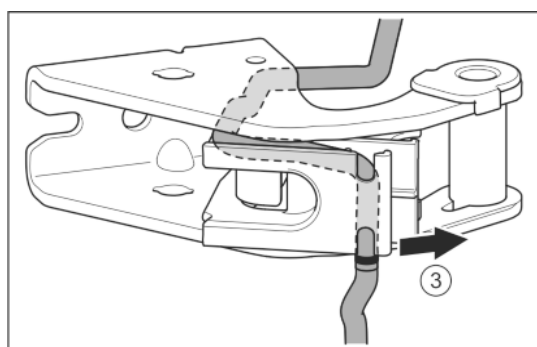

Fig. 24
- ▶ Remove the cable from the guide. *Fig. 24 (3)*